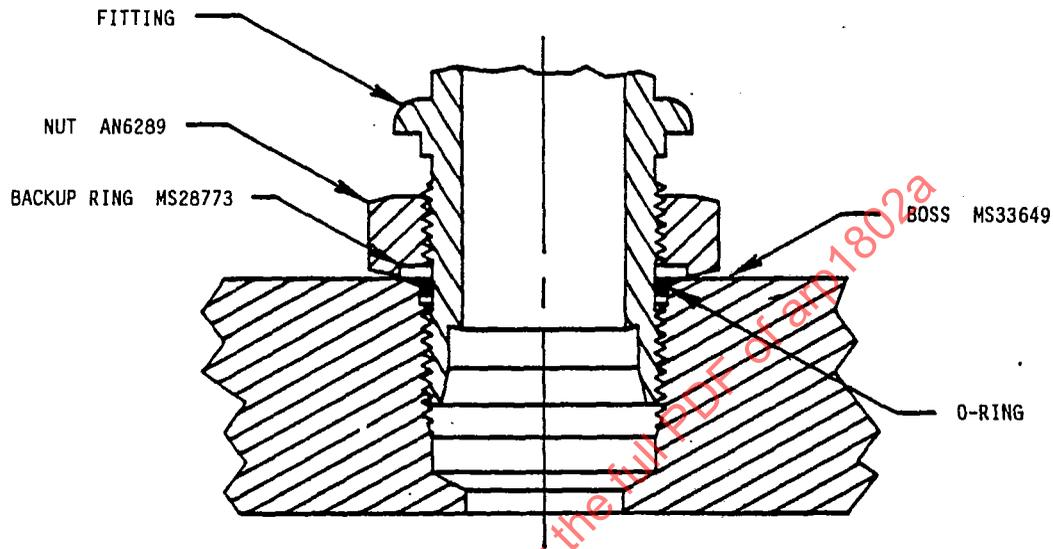

FIGURE 4 - Universal Fitting Installation
3.3.2 MS21344 and MS33566 Fitting Installation Standards Pertaining to Universal Fittings: Universal fittings are rarely used in new design. MIL-H-5440 requires special approval for the use of universal fittings. Universal fittings per MS21344 and MS33566 are installed as shown in Figure 4.